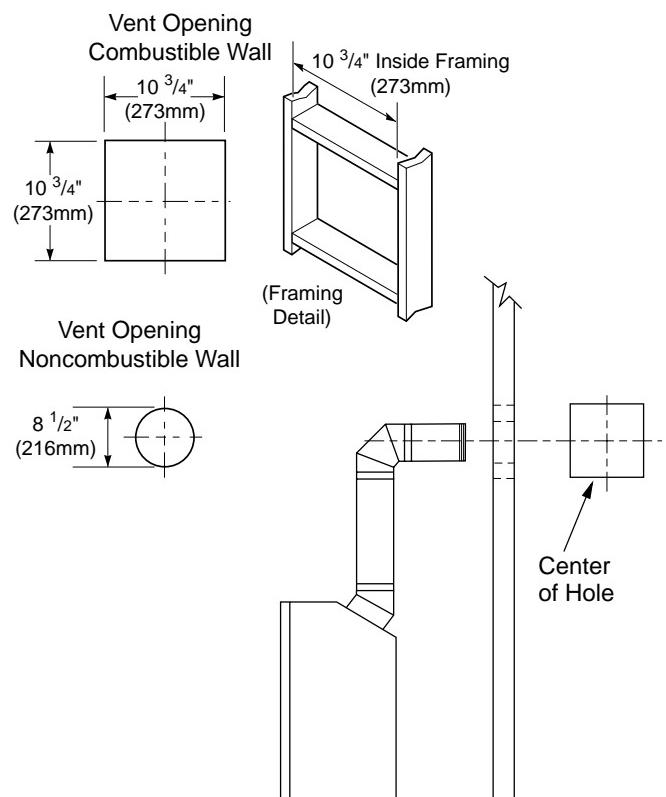
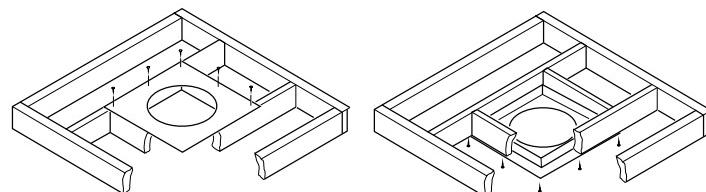

Figure 9 - Vent Opening Requirements
Figure 20 - Installing Firestop
5. Carefully determine the location where the vent pipe assembly will penetrate the outside wall. The center of the hole should line up with the center-line of the horizontal vent pipe. Mark the wall for a $10\frac{3}{4}'' \times 10\frac{3}{4}''$ square hole. Cut and frame the square hole in the exterior wall where the vent will be terminated. If the wall being penetrated is constructed of noncombustible material, such as masonry block or concrete, a $8\frac{1}{2}''$ hole with zero clearance is acceptable (see Figure 9).
1. Cut a $10\frac{3}{4}$ " square hole in the ceiling using the locating hole as a center point. The opening should be framed to $10\frac{3}{4}" \times 10\frac{3}{4}"$ (273mm x 273mm) inside dimensions, as shown in Figure 9 on page 8 using framing lumber the same size as the ceiling joists. If the area above the ceiling is an insulated ceiling or a room, nail firestop from the top side. This prevents loose insulation from falling into the required clearance space. Otherwise, install firestop below the framed hole. The firestop should be installed with no less than three nails per side (see Figure 20).
3. Cut a hole in the roof using the locating hole as a center point. (Cover any exposed open vent pipes before cutting hole in roof.) The $10\frac{3}{4}" \times 10\frac{3}{4}"$ hole must be measured on the horizontal; actual length may be larger depending on the pitch of the roof. There must be a 1" clearance from the vent pipe to combustible materials. Frame the opening as shown in Figure 9, page 8.